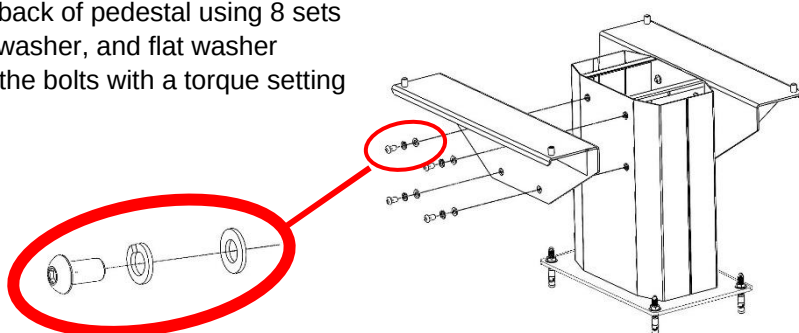

Figure 8 - Attaching Pedestal's mounting plates
7. Attached mounting plate to front and back of pedestal using 8 sets of M10 socket button-head bolt, split washer, and flat washer provided (Figure 8), and then tighten the bolts with a torque setting of 389 ± 10 in-lbs (44 ± 10 N-m).